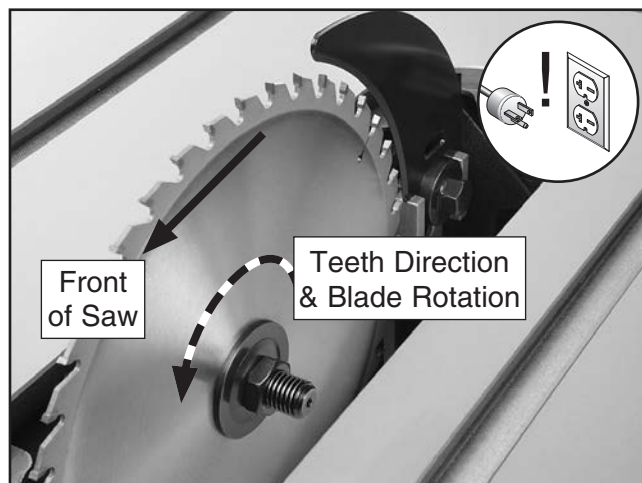

Figure 48. Example of correct blade direction.
5. Slide the blade over the arbor with the teeth facing the front of the saw, as shown in **Figure 48**.